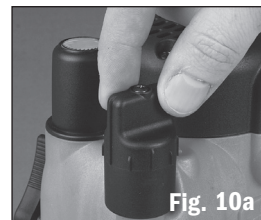

Fig. 10a
1. Disengage the Plunge Mode Selector button, and ensure that the plunge lock lever is unlocked **Fig 10a**.